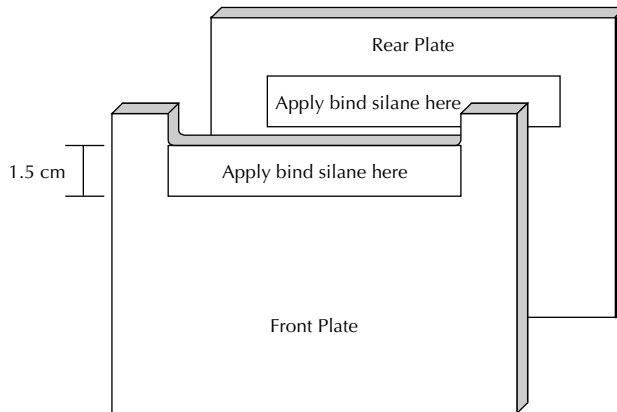

Figure 2-1. Apply bind silane to the plates as shown.
- Use a cotton swab to apply the solution on the inside of the short plate over the area below the edge of the notch where the wells will form (Figure 2-1). Apply solution to the rear plate using the front plate as a guide to determine where to place the bind silane onto the rear plate. Allow the solution to dry before gel assembly.